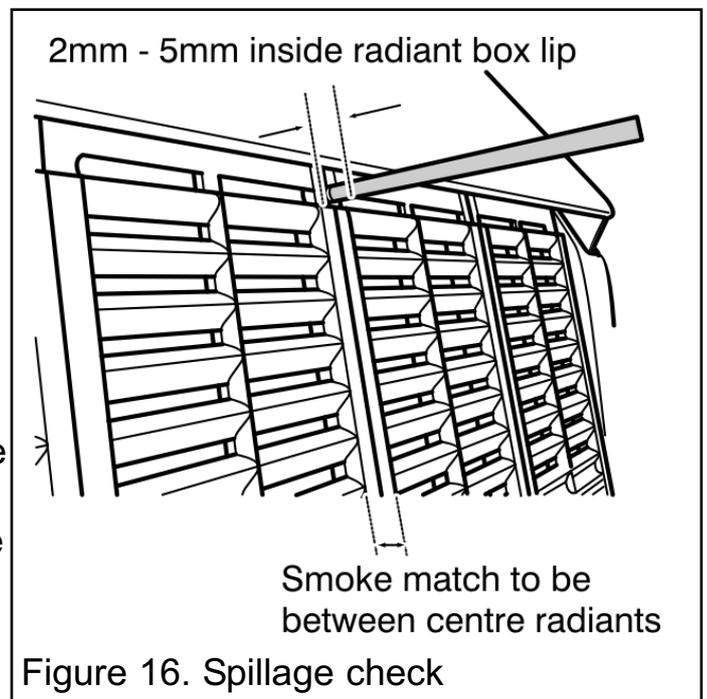

Figure 16. Spillage check
4. Place a smoke match tube (with lighted match) horizontally underneath the radiant box but touching the top lip of the box. The tube should be between the two centre radiants. The tip of the match should project between 2mm and 5mm beyond the lowest edge of the radiant box lip (See figure 16).